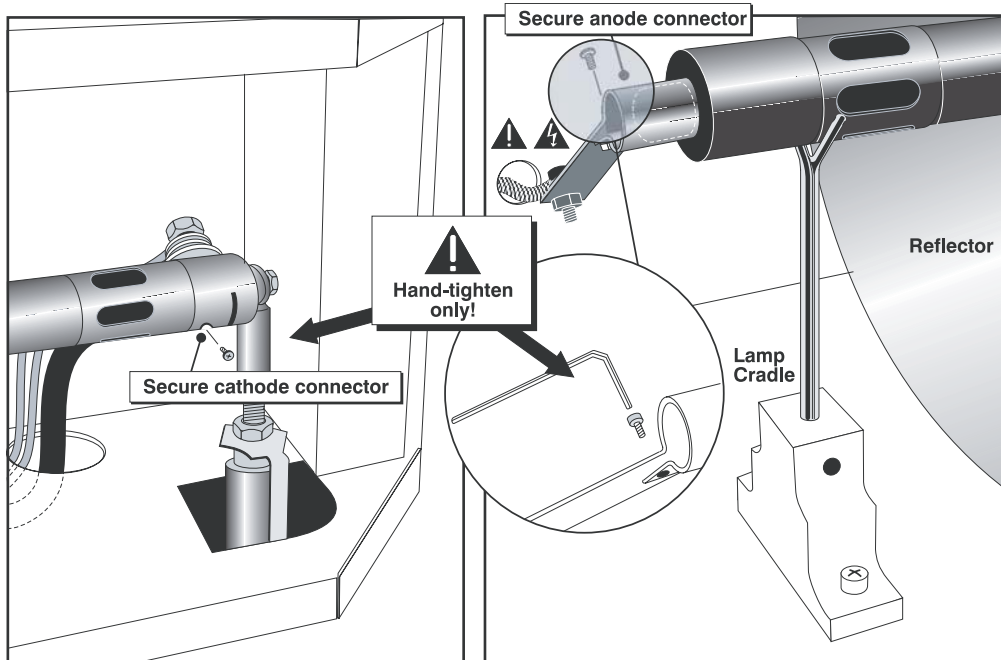

Figure 5-3. Securing Lamp Anode (+) and Cathode (-) Connectors
13. Tighten the set screws in both negative and positive lamp connectors; see Figure 5-3. If you accidentally touch the quartz body of the lamp with your bare hands, clean the surface as described in **Maintenance and Cleaning** on page 85.